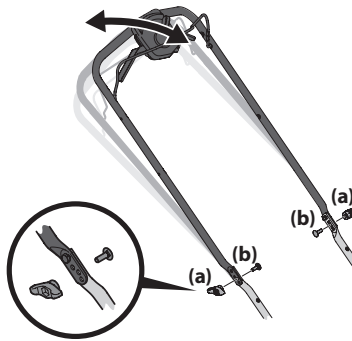

Figure 2-11
1. Remove wing nuts (a) and carriage bolts (b) from handle. See Figure 2-11.
2. Position the handle in one of the three positions that is most comfortable. See Figure 2-11 inset.